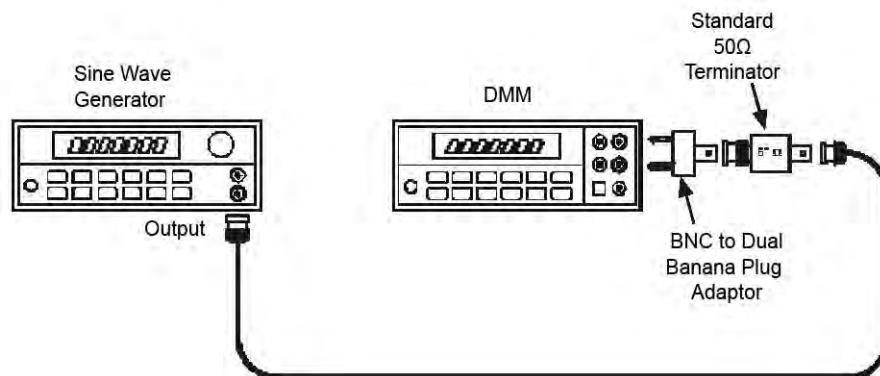

Figure 14, $\div 10$ Attenuator Accuracy Test Setup 1.
4. Connect the terminated output cable from the sine wave generator to the DMM using the BNC to Banana Plug adapter. Refer to Figure 14.